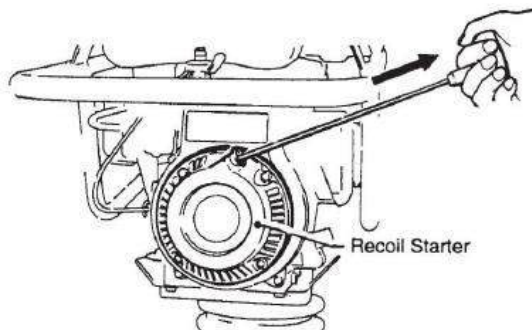

Fig 8
4. Grip the recoil starter (Fig 8) handle and pull it until you feel a slight resistance. Then pull sharply and quickly. Return the recoil starter handle to the starter case before releasing.